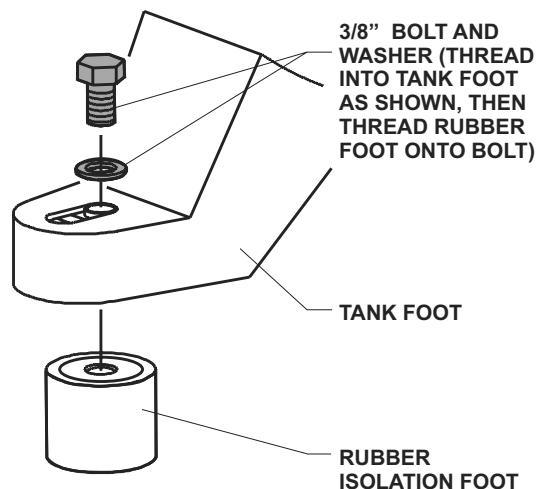

Figure 3. Installation of Rubber Feet
2. Attach rubber feet to bottom of tank feet (see Fig. 3).